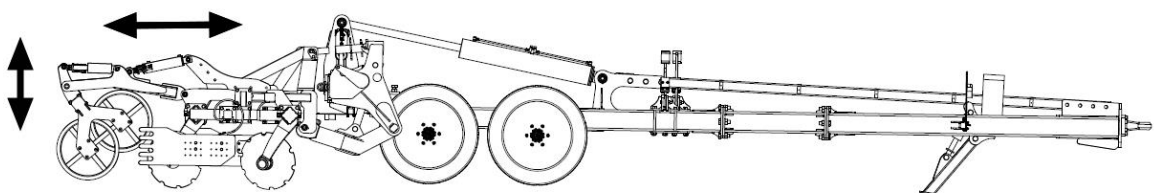

Fig. 23 Adjusting the height and angle of attack of the working shafts.
5. Once the machine has been unfolded on the chassis, the alignment of the working shafts with respect to the machine must be carried out using hydraulic cylinders. The entire process is carried out using hydraulic cylinders that determine the height of the shafts and their angle of attack relative to the ground, and turnbuckles fitted to the machine's wing drawbars (fig. 23).